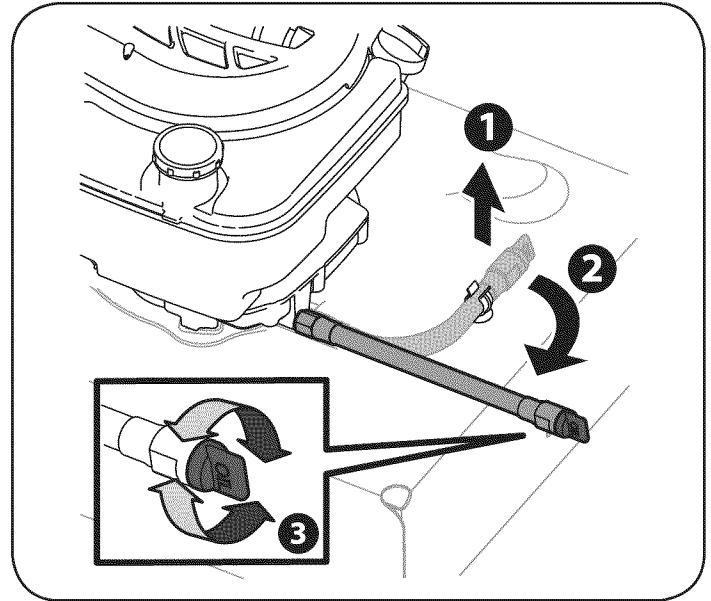

Figure 12
1. Pull up the oil drain hose to release it from the deck. See Figure 12.
3. Unscrew the cap on the end of the oil drain hose to begin draining oil. See Figure 12 inset.